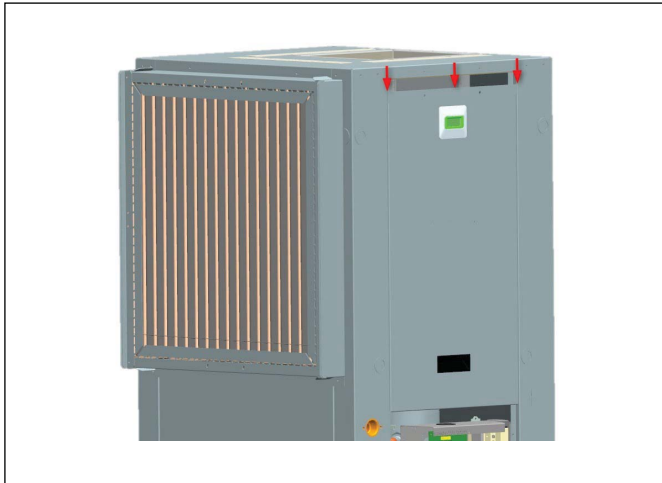

Figure 9
8. Slide the top panel down slightly. Be cautious as there is a unit display plugged into the panel (figures 9 and 10).